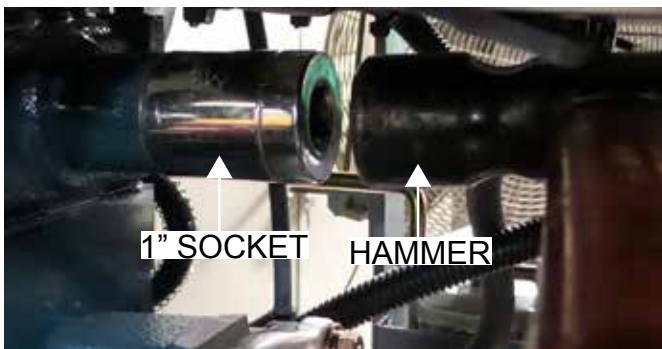

Figure 11. Setting Heater Element
3. Locate the 1" socket extension in the kit and place it over the tape masked threaded end of the heater element to protect threads as shown in Figure 11.
4. Using a hammer, tap the 1" socket extension and heater element into the engine block freeze plug corehole (Figure 11) until the heater element is flush with the engine block surface.